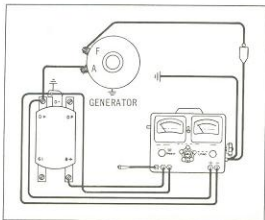

Figure 51-13.
**B. TESTER CONNECTIONS (SEE FIG. 51-13)**